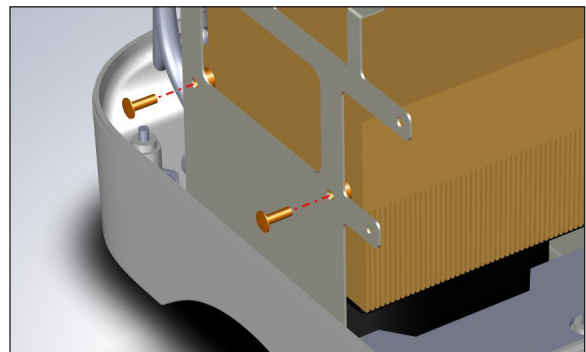

Figure 126 - Step 5 Remove screws and plastic spacers
5. Remove two Phillips screws and the plastic spacers that attach the TE module on the front bracket (Figure 126). Note: Some ECII units do not have the plastic spacers.